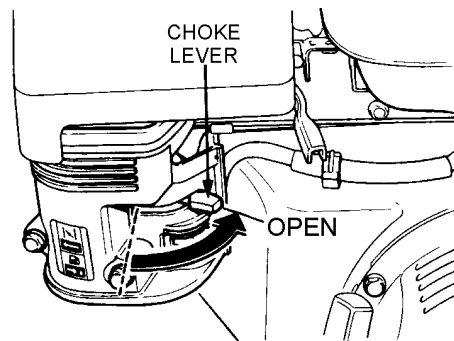

Figure 9. Engine Choke Lever (Open)
4. Place the choke lever (Figure 9) in the "OPEN" position if starting a warm engine or the temperature is warm.